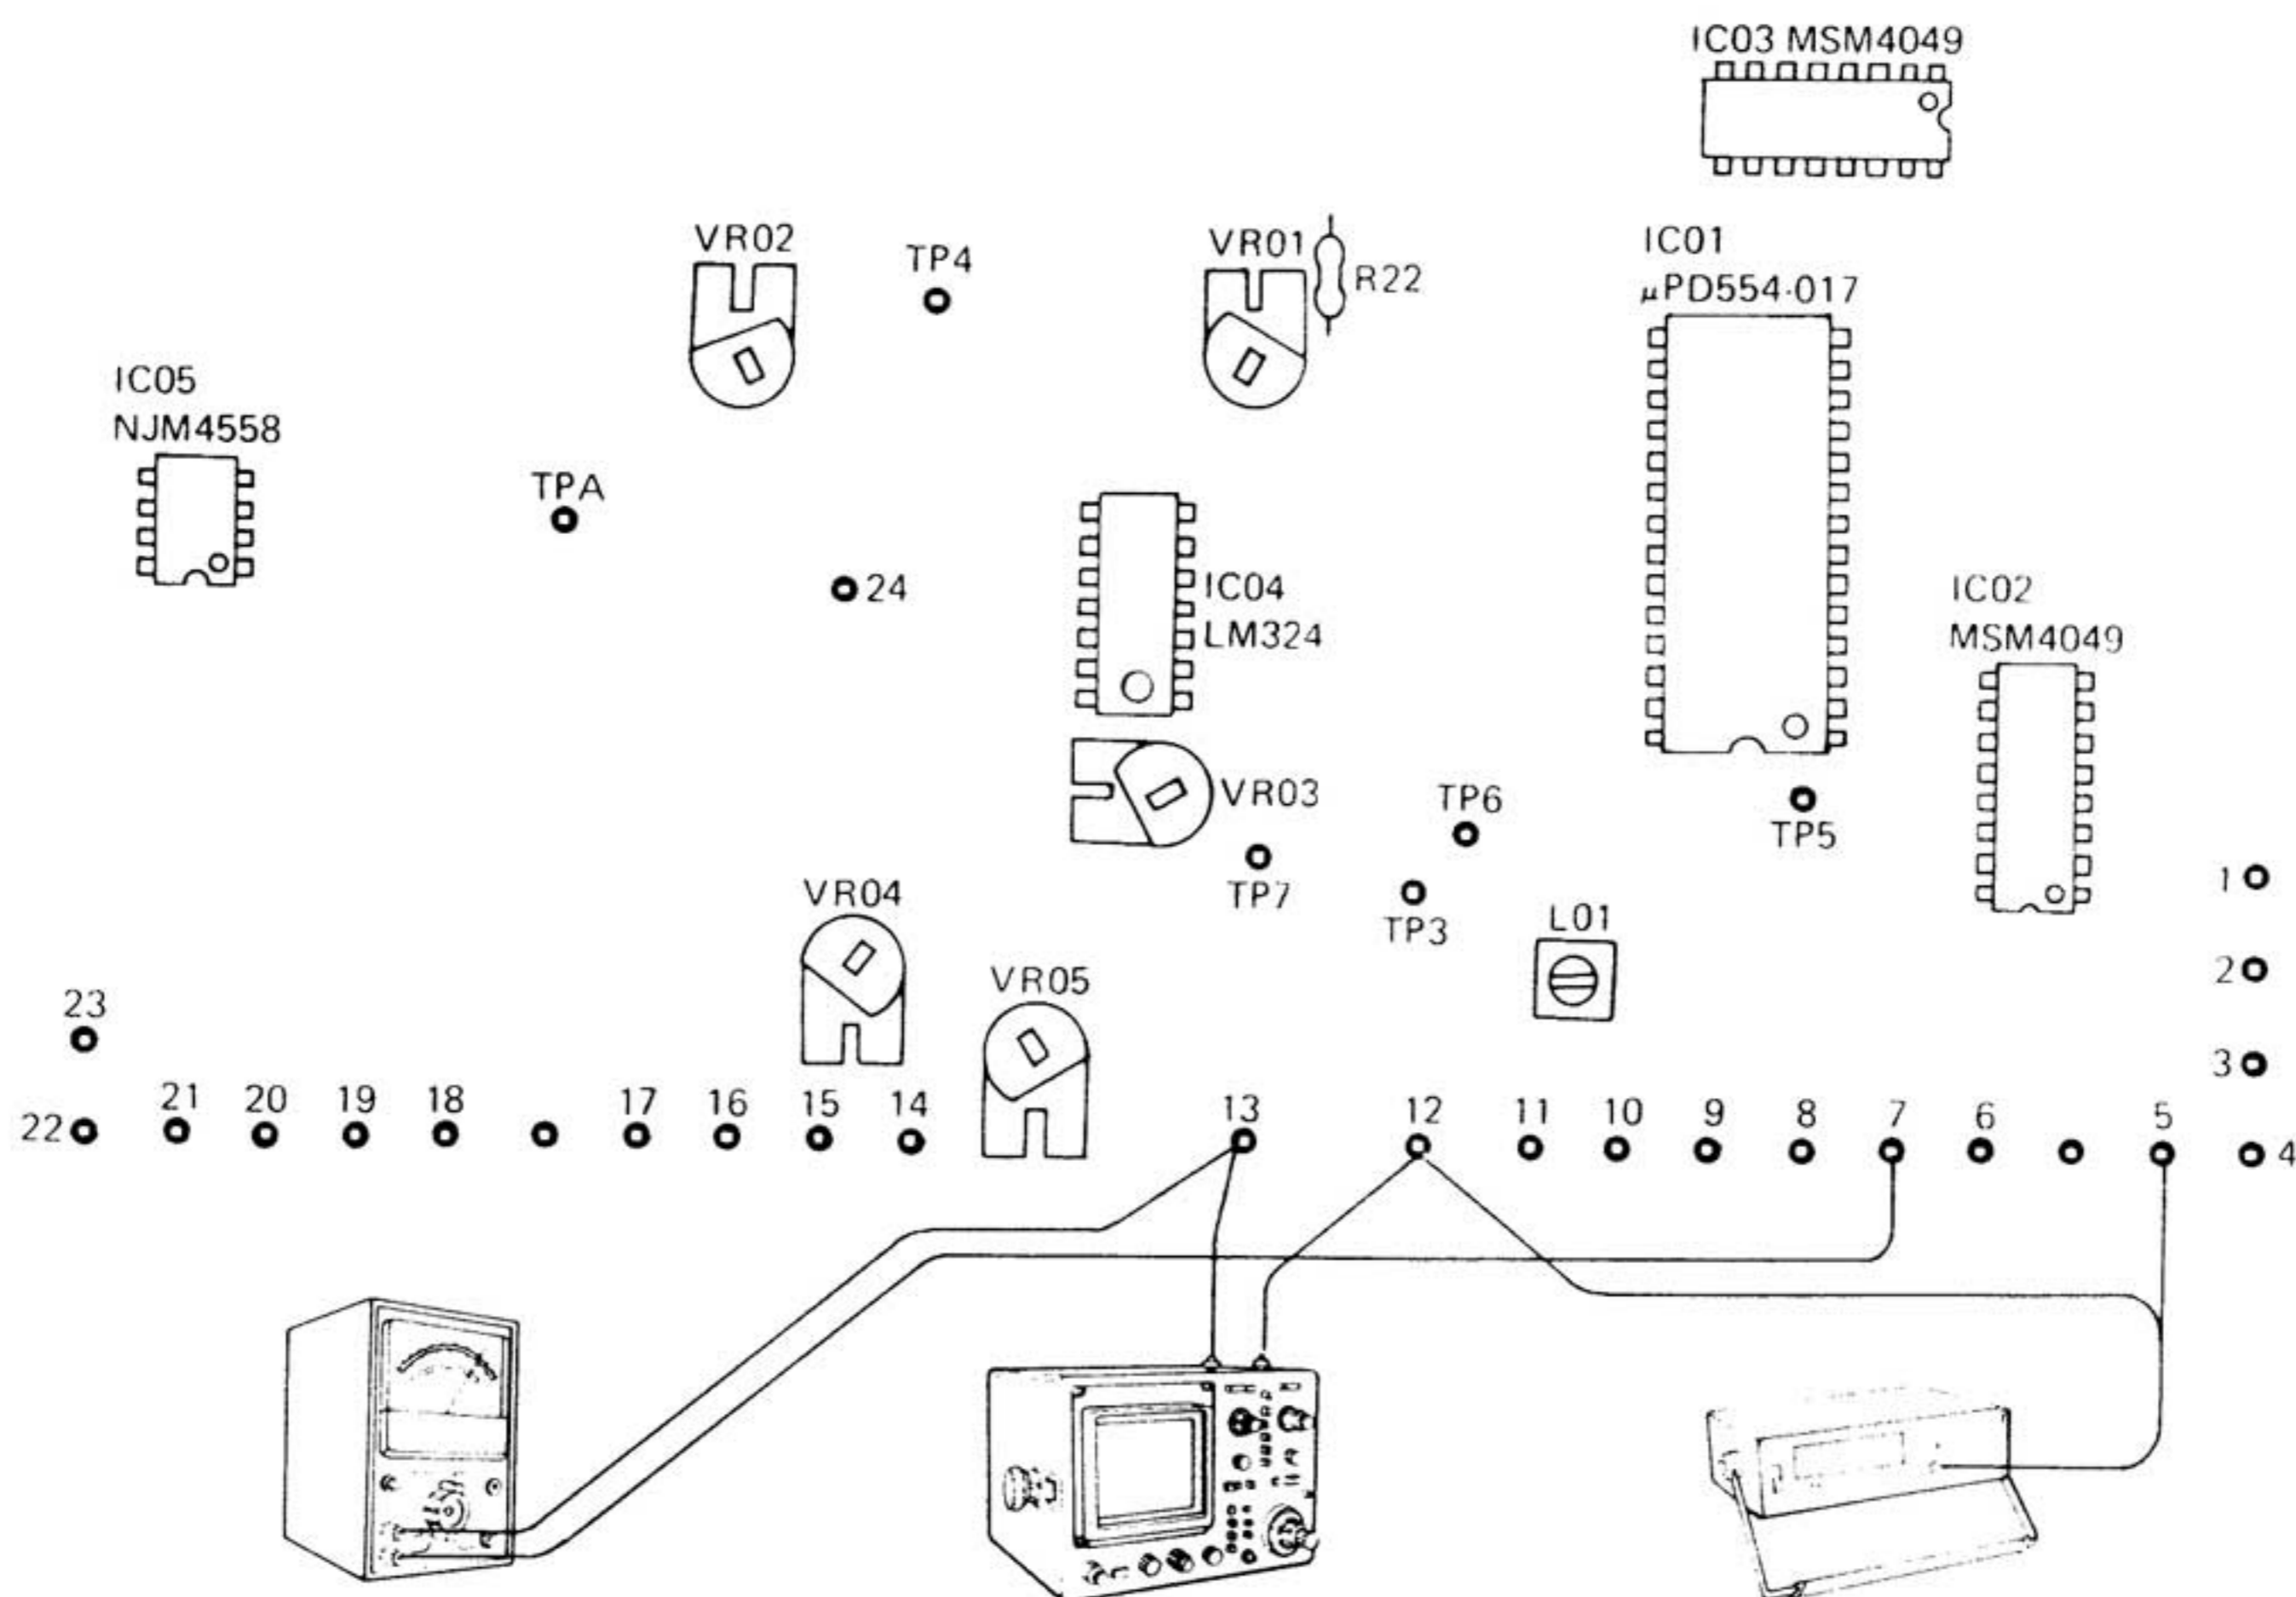

Fig. 20
- Connect the frequency counter to Pin 12 (–) and TP5 (+) on Microcomputed Control P.C.Board. (Fig. 20)
- Connect the synchroscope to Pin 12 (–) and Pin 13 (+) on Microcomputed Control P.C.Board. (Fig. 20)
- Connect a DC VTVM to TP7 (–) in MCP Control P.C.Board and Wrapper Pin 13 (+). (Fig. 20)